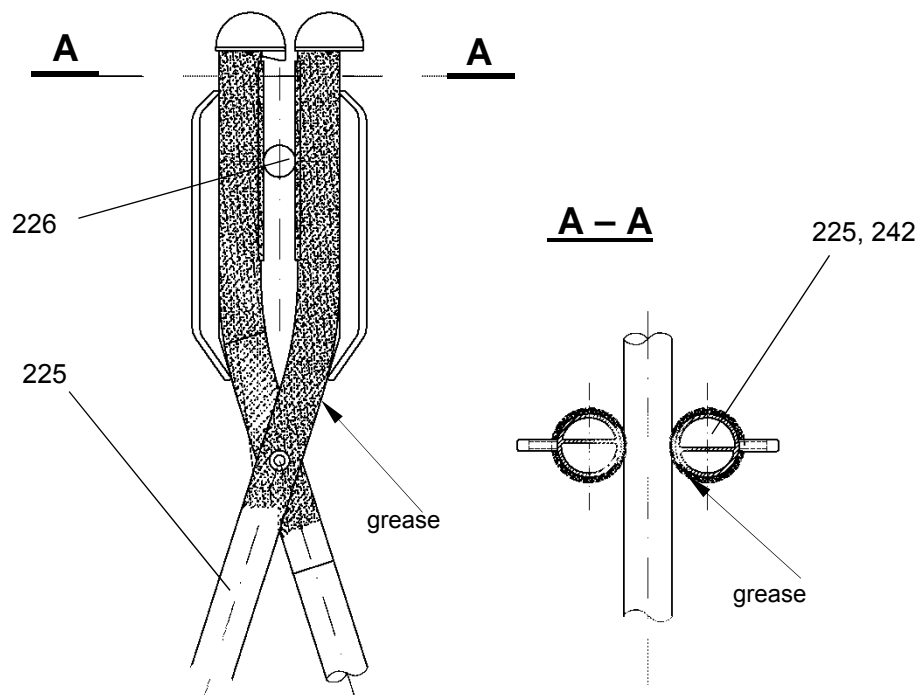

Figure 8 Treatment of pantograph for ice breaking capability
- 7.3.16. On disconnectors subject to icing, grease the pantograph tubes 242 and contact strips 236 (see Figure 8), and the suspended contacts (over their entire length between the clamps) all around with Mobil 28 Grease; thickness of grease layer: approx. 3 to 4 mm. In the case of suspended commutation contacts, the auxiliary contact bars 303 shall also be greased all around their circumference and over their entire length.